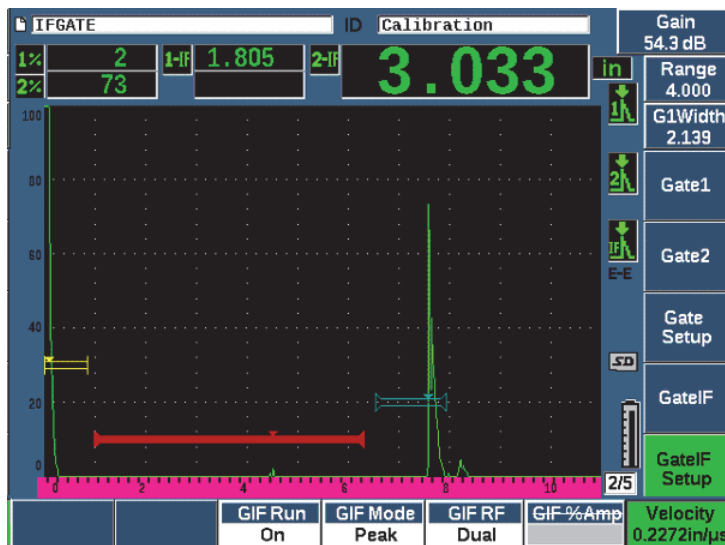

Figure 11-33 Setting the material velocity
3. Use the adjustment knob or arrow keys to set the required velocity (see Figure 11-33 on page 284).